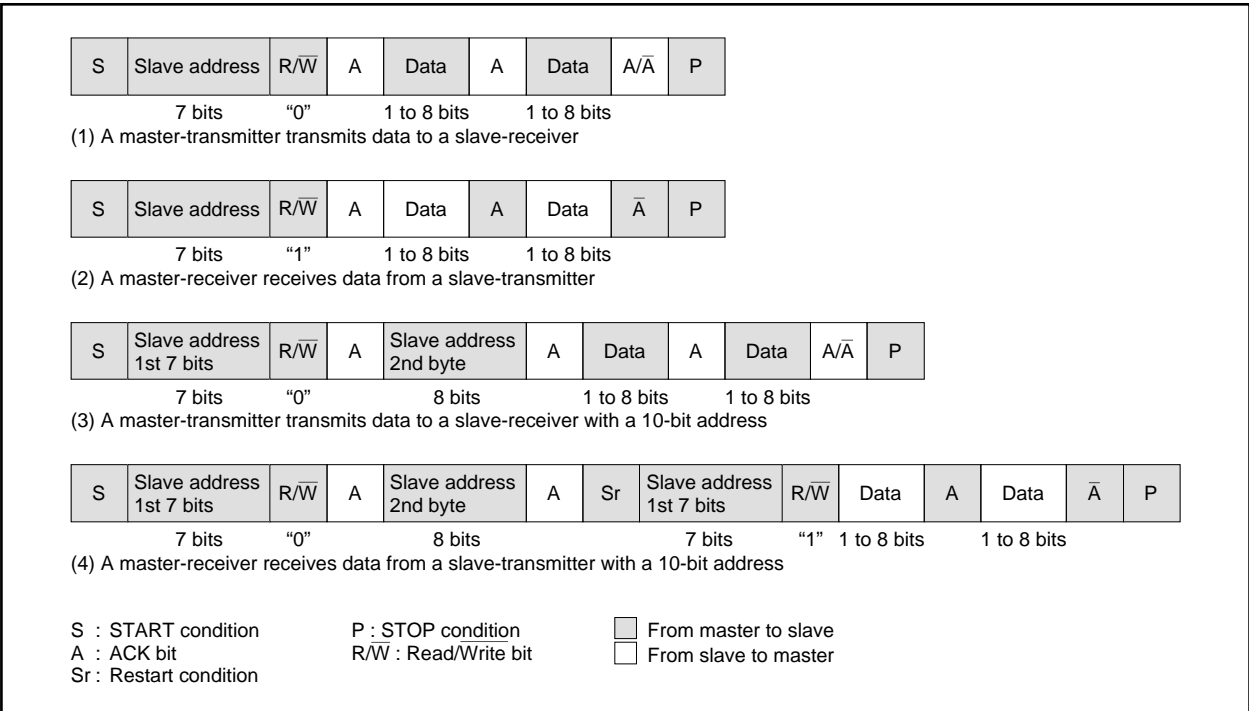

Fig. 52. Address Data Communication Format
① 7-bit addressing format
To meet the 7-bit addressing format, set the 10BIT SAD bit of the I²C control register (address 00F9₁₆) to "0." The first 7-bit address data transmitted from the master is compared with the high-order 7-bit slave address stored in the I²C address register (address 00F7₁₆). At the time of this comparison, address comparison of the RBW bit of the I²C address register (address 00F7₁₆) is not made. For the data transmission format when the 7-bit addressing format is selected, refer to Figure 52, (1) and (2).
② 10-bit addressing format
When the first-byte address data matches the slave address, the AAS bit of the I²C status register (address 00F8₁₆) is set to "1." After the second-byte address data is stored into the I²C data shift register (address 00F6₁₆), make an address comparison between the second-byte data and the slave address by software. When the address data of the 2nd bytes matches the slave address, set the RBW bit of the I²C address register (address 00F7₁₆) to "1" by software. This processing can match the 7-bit slave address and R/W data, which are received after a RESTART condition is detected, with the value of the I²C address register (address 00F7₁₆). For the data transmission format when the 10-bit addressing format is selected, refer to Figure 52, (3) and (4).
(11) Example of Master Transmission